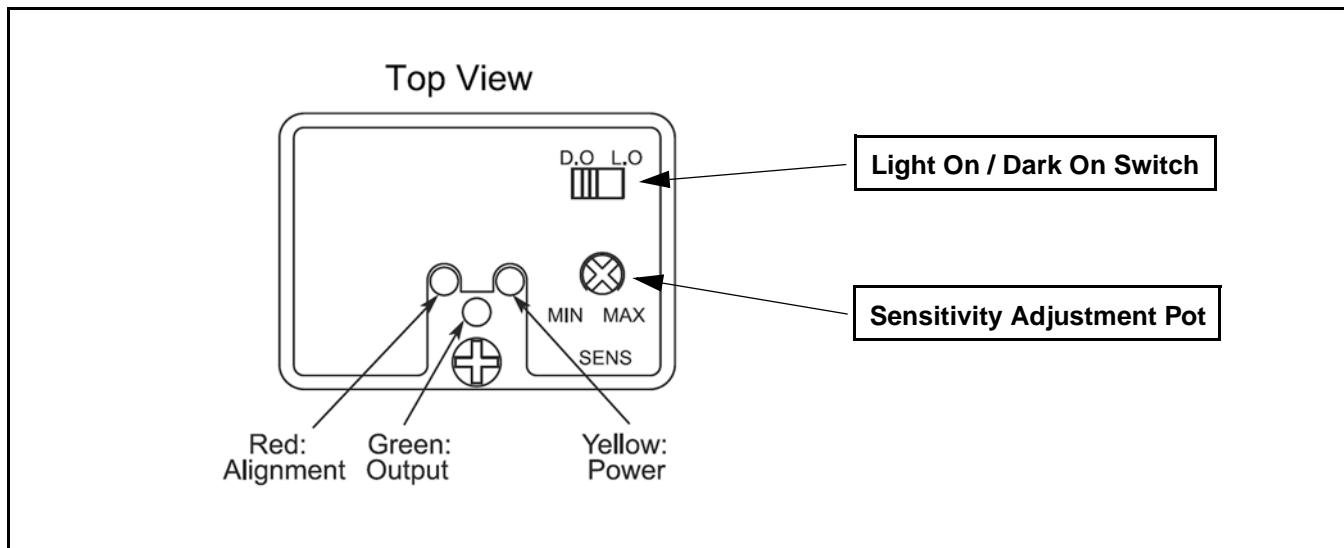

Figure 23
5. Photo eye comes preset to Light-On operation which causes the conveyor to run when the sensed zone is clear and stop when the sensed zone is blocked. For Dark-On operation move selector to D.O. position **Figure 23**.